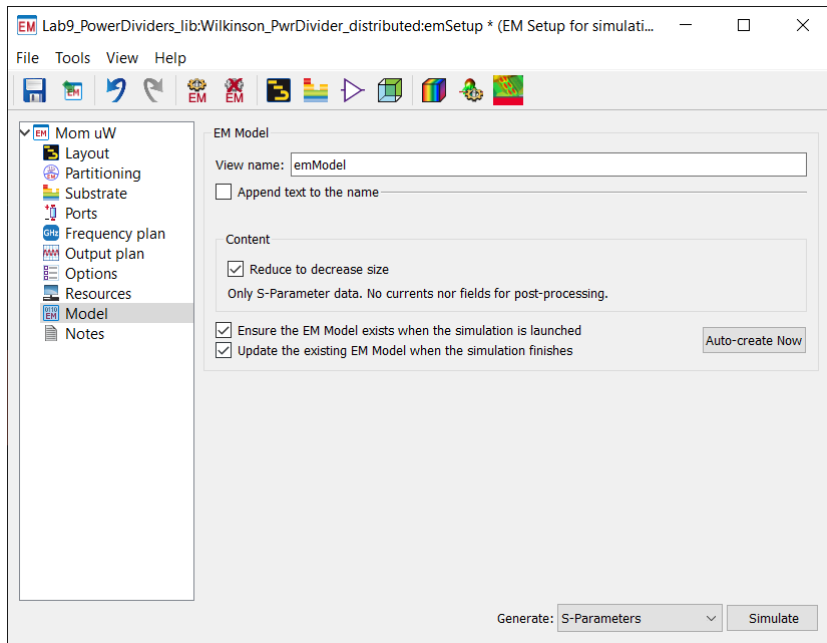

Figure 18. EM Setup with EM model options selected
- In the Model section, enable both EM model options. Press **Auto-create Now**. This is shown in Figure 18.